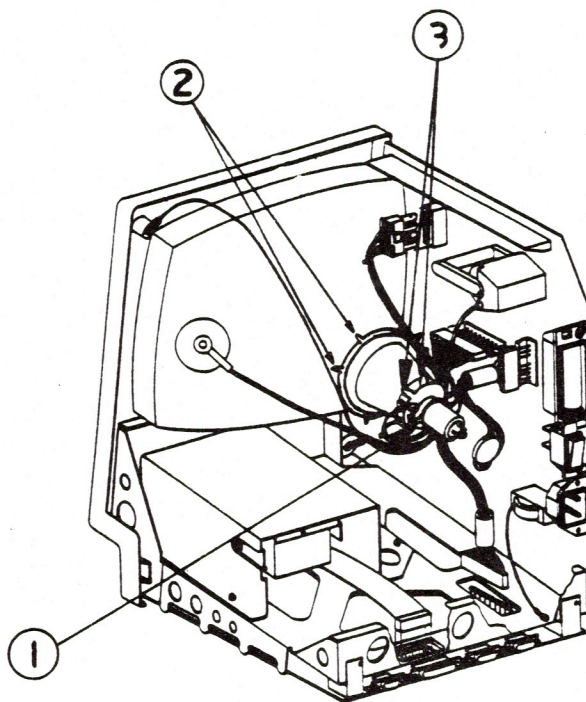

FIGURE 2
3. Loosen the yoke clamp screw (Figure 2, #1) two or three turns.
5. Put one hand behind your back and with your other hand grasp only the plastic spokes of the yoke collar (Figure 2, #2). Rotate the yoke and observe the effects on the picture. Rotate the yoke until the top and bottom edges of the picture appear parallel with the top and bottom edges of the bezel.
7. Connect the power cord and turn the power on. Locate the two centering rings on the yoke assembly (Figure 2, #3). The adjustment of these rings determines whether the picture is centered or offset to one side.